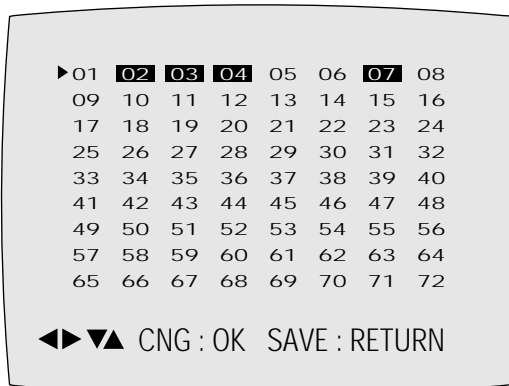

Fig. 6-3
- 2) Press the “1, 4” buttons on the remote control. The option setting is appears. (See Fig. 6-3)